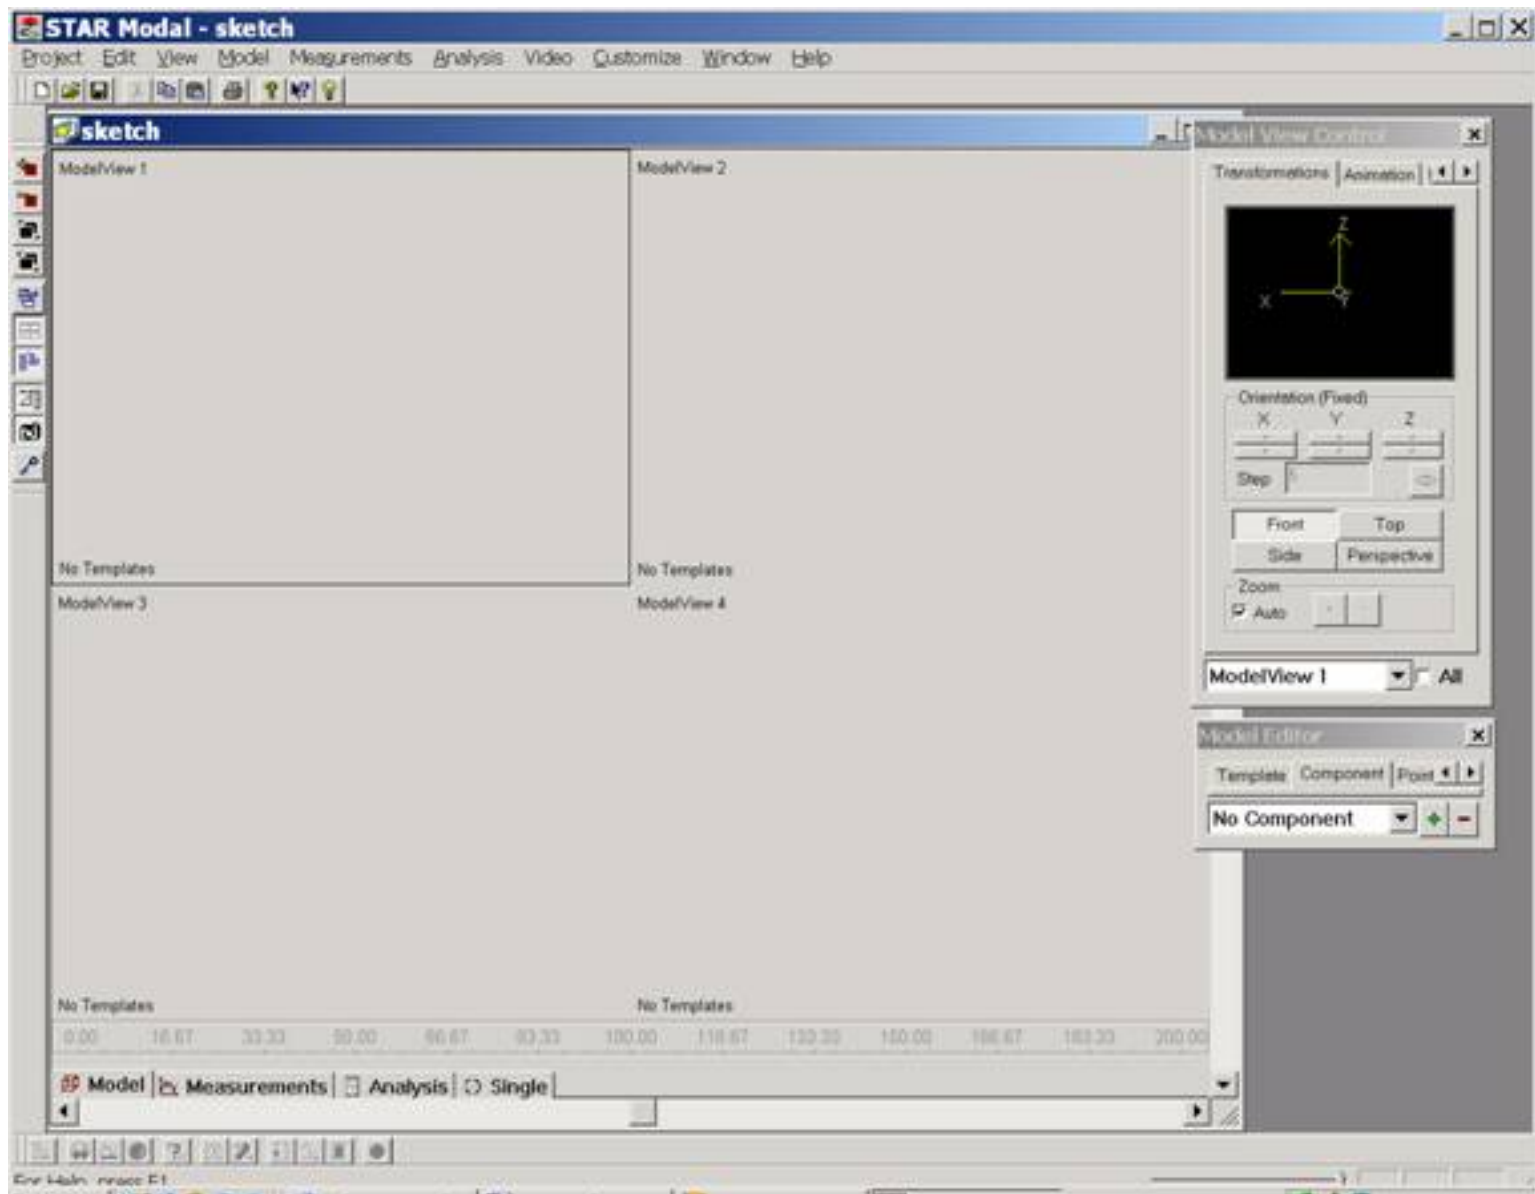

Figure 3
3) For simplicities sake, delete Front, Top and Side Model Views. You can do this by clicking on Front Model View and then clicking on the second icon (Delete View) from the top of the left most Vertical toolbar. This will delete the Front Model View. Repeat the process for the Top and Side Views, leaving only the Perspective Model View. See Figures 3 and 5.